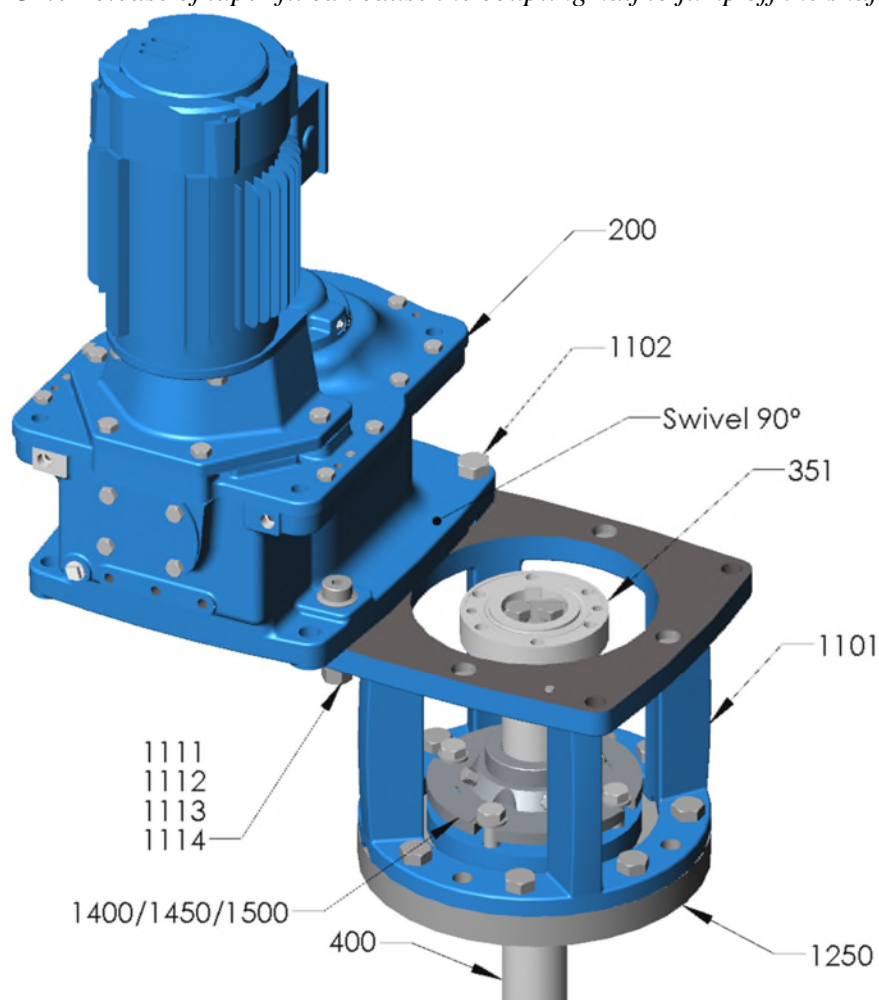
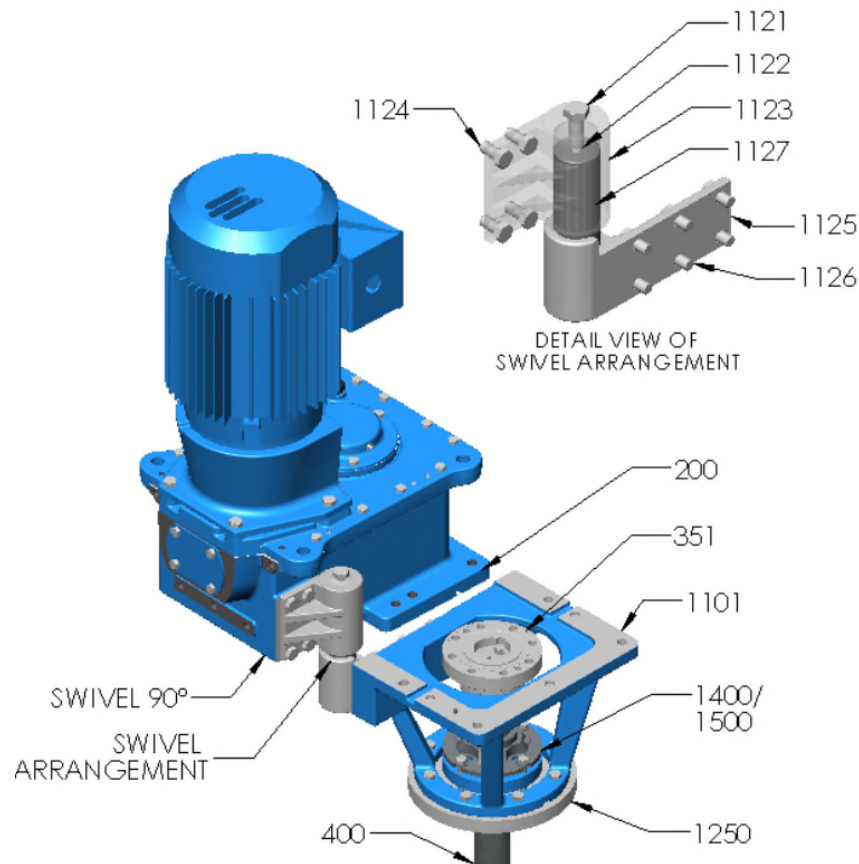

Figure 35. Model 21 and Model 22 Gear Drive Pivot Feature
Figure 37. 23 Gear Drive Swivel Arrangement
- a. Remove gear drive mounting bolts, nuts and lockwashers [1102, 1103, 1104]. Rotate the gear drive 90° counter-clockwise. See Figure 35, page 83.
- b. Rotate the gear drive 90° counter-clockwise. See Figure 37, page 85.
7. Remove gear drive mounting bolts [1102]. Rotate the gear drive 90° counter-clockwise. Refer to Figure 35, page 83 or Figure 37, page 85.